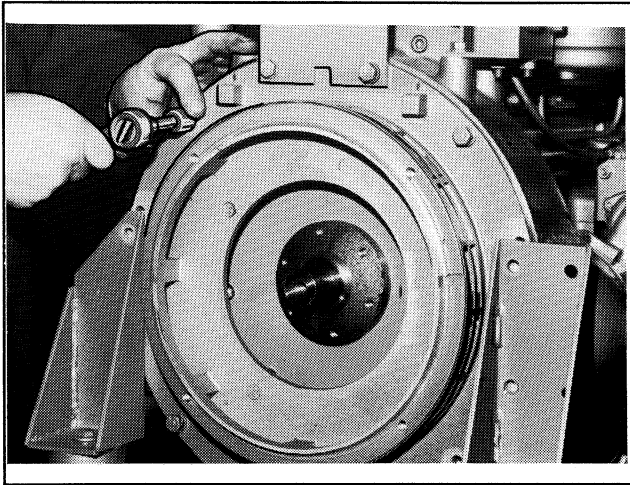

Figure 8-11. Removing Adapter Plate
19. Remove bolts securing adapter plate and lifting eye. See Figure 8-11. Remove lifting eye and ground strap. Bump adapter plate with rubber mallet to separate adapter plate from engine.